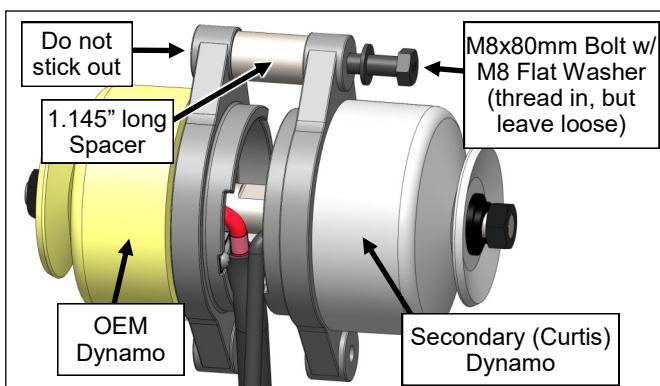

Fig. 2.5 (Install Spacer)
- 2.5 See fig. 2.5. Orient the dynamos so that the clearance mounting hole in the Curtis dynamo lines up with the threaded hole in the OEM dynamo. Install an M8 steel flat washer onto the 80mm long bolt and pass this thru the clearance ear of the Curtis dynamo, then thru the 3/4" O.D. spacer, then thread the bolt into the threaded ear of the OEM dynamo. Do not allow the screw to protrude out the back side of the OEM ear.